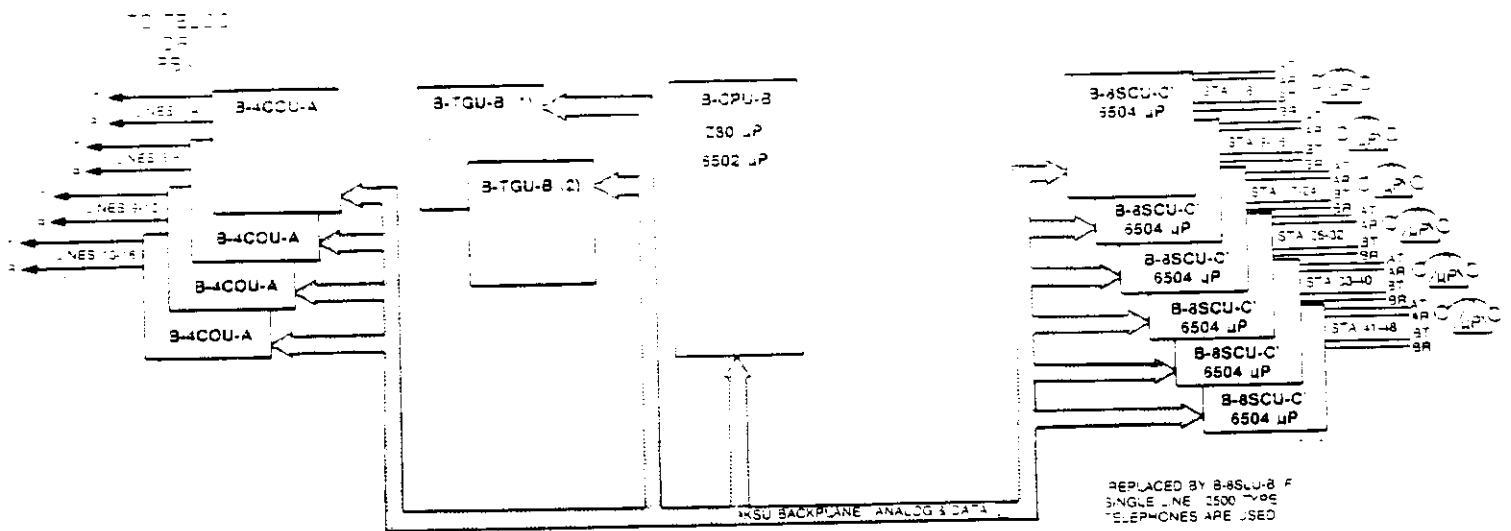

Figure 8-1 SYSTEM BLOCK DIAGRAM, EK-824/1232/1648
2.02 The system (Figure 8-1) uses the following common equipment Printed Circuit Boards: